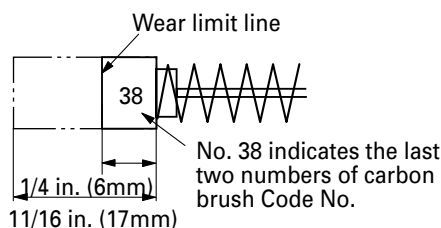
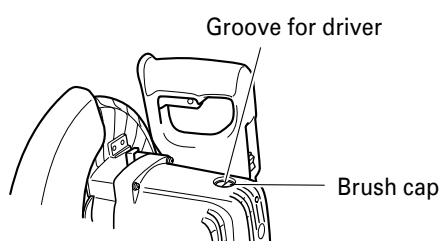

Fig. 36
Fig. 37
3. Inspecting the carbon brushes (Fig. 36 and Fig. 37)
Therefore, inspect the carbon brushes periodically and replace them when they have become worn to the wear limit line as shown in Fig. 36.
The carbon brushes can easily be removed after removal of the brush caps (see Fig. 37) with a slotted (minus) screwdriver.